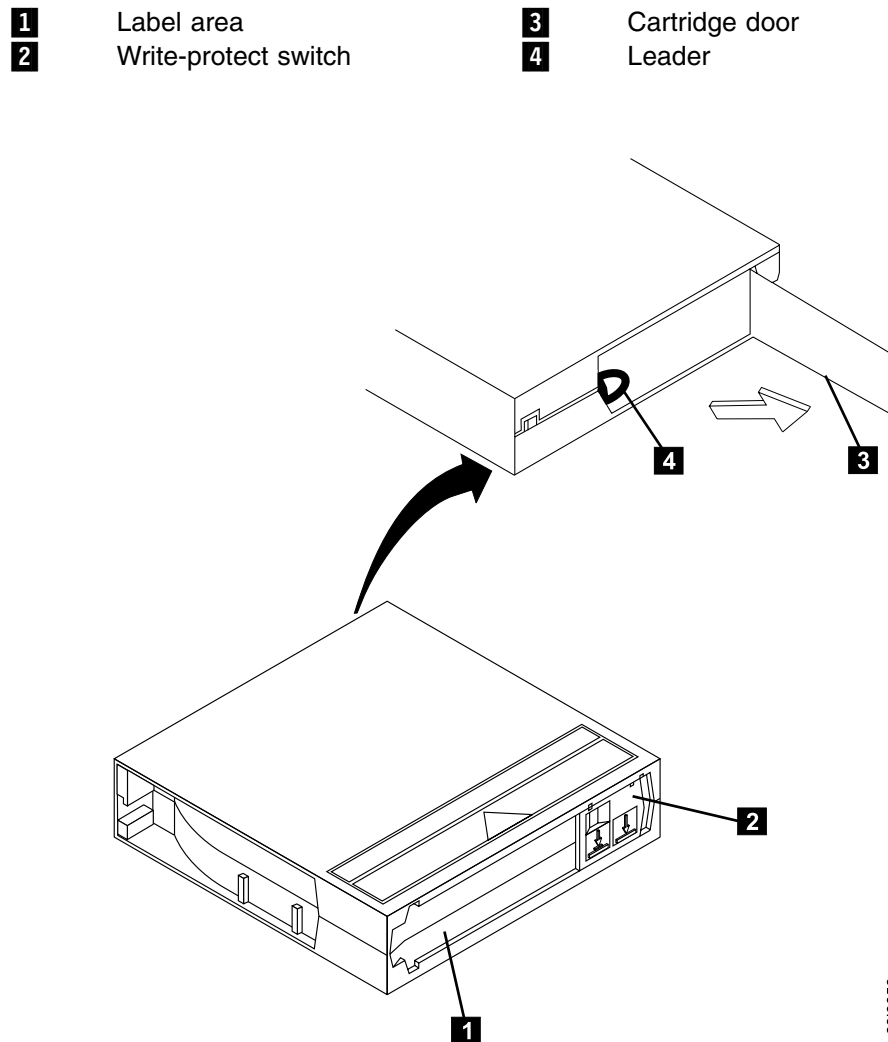

Figure 50. Components of the DLTape IV Data Cartridge
Figure 50 shows the DLTape IV Data Cartridge and its components.
- Position the label within the recessed label area (see **1** in Figure 50 on page 215).